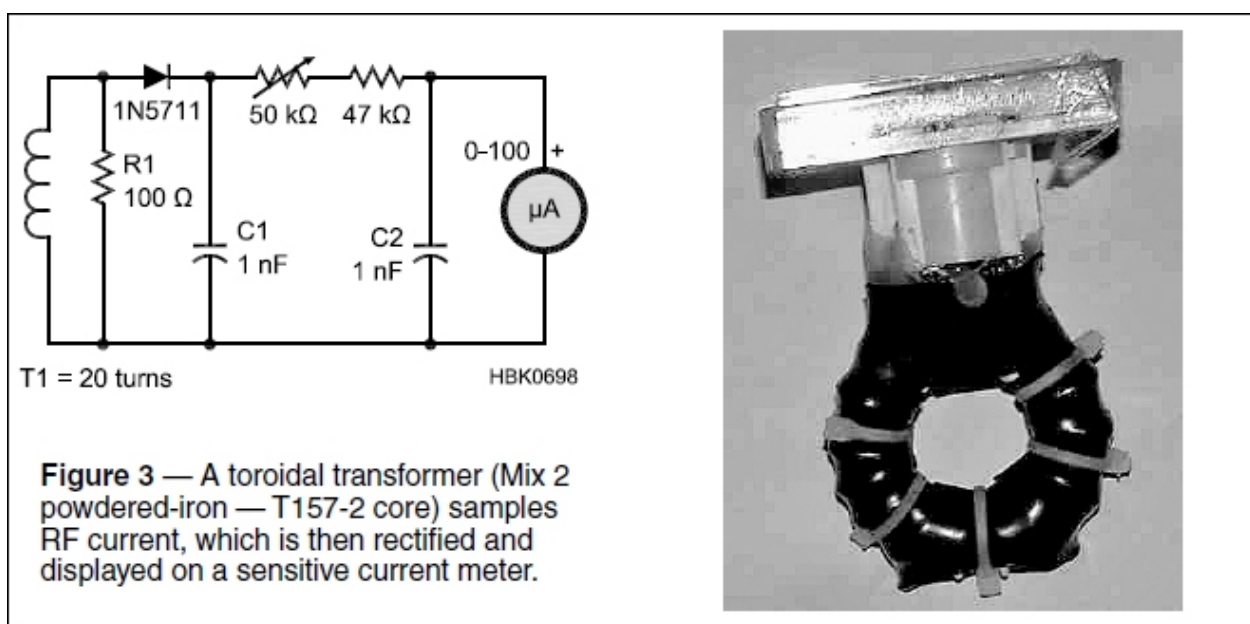

Figure 3 — A toroidal transformer (Mix 2 powdered-iron — T157-2 core) samples RF current, which is then rectified and displayed on a sensitive current meter.
Figure 3 — Compared to the round wire (A), the skin effect in a flat conductor (B) causes current to flow along its edges and not equally distributed across the flat surfaces. The skin depth is shown as δ .
A common reason to go "RF hunting" is to find RF current flowing on feed lines or other conductors. Or perhaps you would like to make some relative measurements of RF current to test antenna or ground radial system performance. Tom Rauch, W8JI, developed the handy RF current meter shown in Figure 3 for this purpose.
Another option is to generate an "RF Detected" signal of your own. You can make up a simple RF detector circuit, as shown in Figure 3. The output of this circuit follows the envelope of the RF signal. Connect the 40 dB attenuator input directly to the dummy load. You can then trigger the scope from the output of the RF detector either using the AC slope or with the DC level. This will cause the scope to trigger after a few cycles of RF have charged up the detector capacitor. (If the detector will always be used with a 50 Ω dummy load, the left-most 51 Ω resistor can be replaced by the dummy load. Permanently adding this circuit to your dummy load provides a handy peak detector output for other testing purposes.)
Figure 3 — This peak detector is useful for measuring RF power levels as well as detecting RF waveform envelopes. Be sure the 51 Ω resistors are sufficiently rated for the power level to be used.